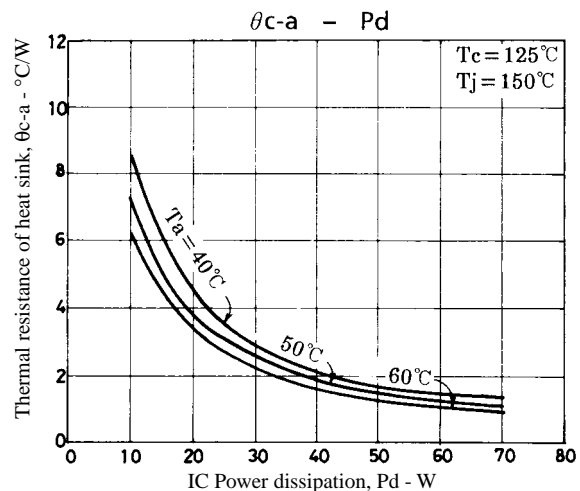

Figure 3. STK4181V θc-a – Pd
Figure 3 shows the relation between Pd and θc-a given from (1) and (3) with Ta as a parameter.
The thermal resistance of a heat sink is obtained from Figure 3.